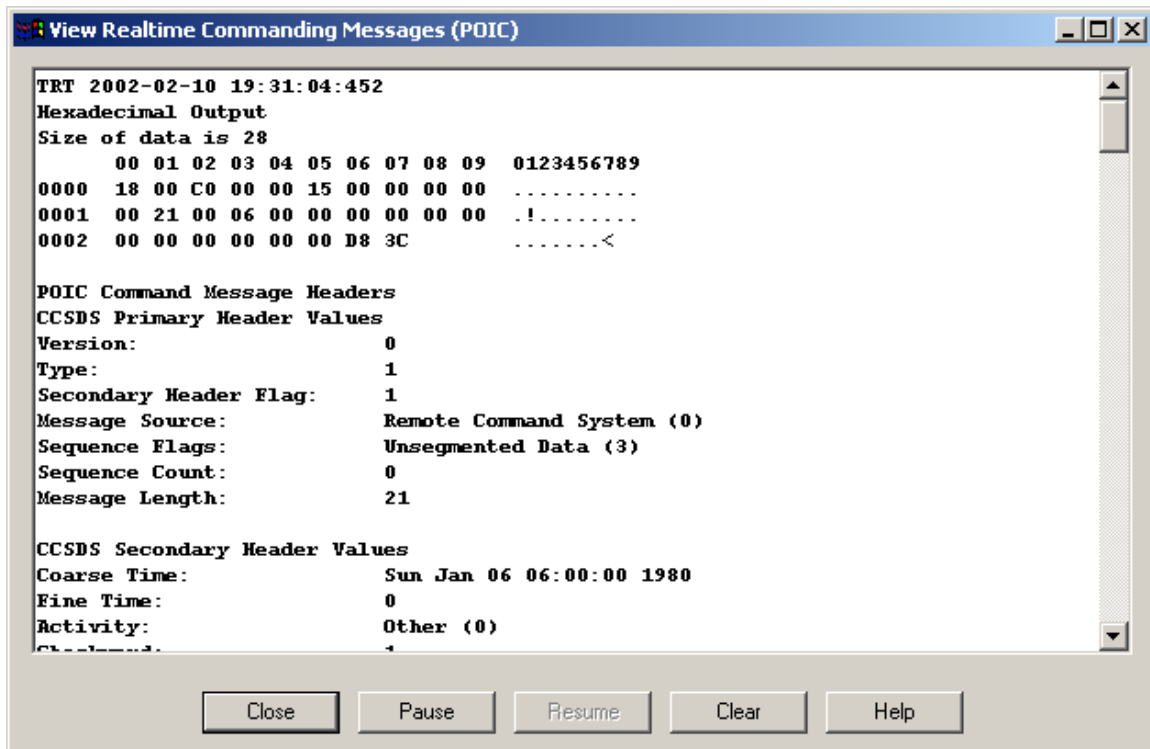

Figure 26 View Realtime Commanding Messages Dialog
3. Now go to the **Destination** menu and select the **View Realtime Commanding Messages** menu item. The dialog shown in Figure 26 is displayed.